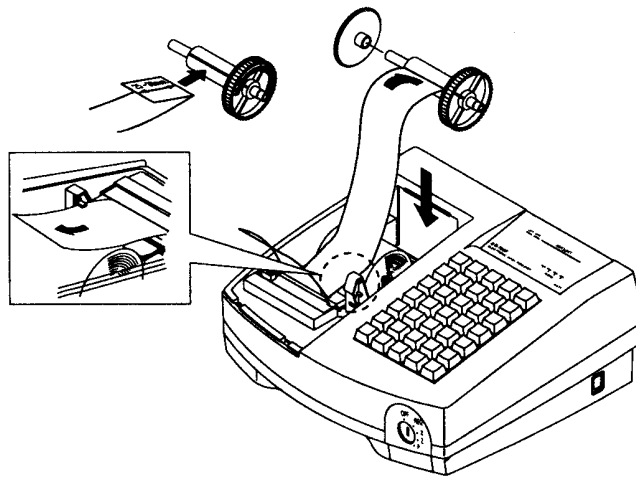

Figure 3-5. Preparing Paper for Insertion and Inserting the Paper
1. Using a new roll of paper, unroll the paper and cut the end as shown in Figure 3-5.
4. Insert the paper in the notch in the Rewind Spindle as shown in Figure 3-5. Wind the Spindle three or four times to secure the paper on it.